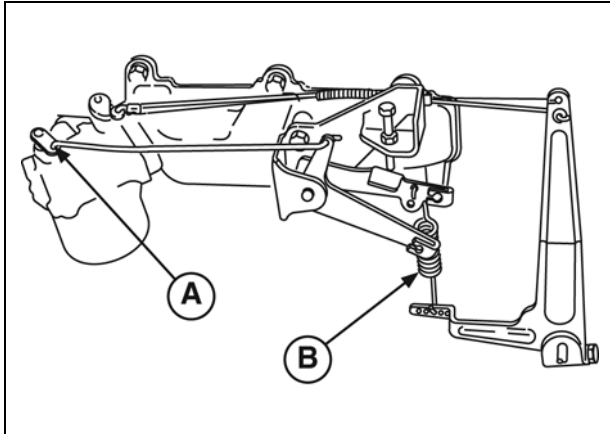

Figure 22
- Assemble governor spring (A, Figure 22) to governor control lever (B).